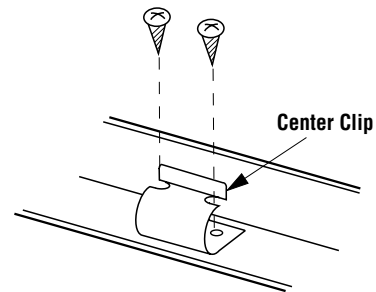

Figure 1
Step 1. See *Figure 1* and install the center clip with two screws in the firebox opening centered at the bottom.